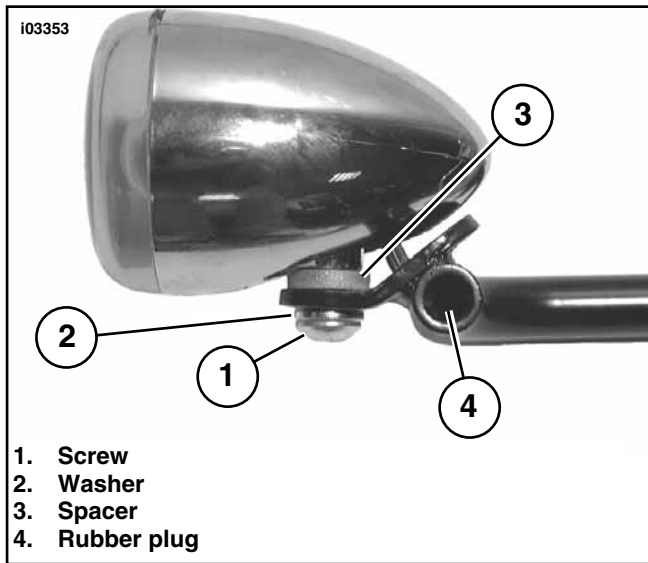

Figure 8. Installing 2-3/8 inch Signal Lamps (Deuce Style)
See Figure 8. Apply LOCTITE 243 (Blue) to screw (Part Number 4092). Using screw (1), lock washer (2) (Part Number 7042) and spacer (3) (Part Number 65849-01), attach lamp to signal relocation bar as shown. Spacer should be installed between signal and signal relocation bracket. Tighten securely. Repeat step 8 for the opposite side. Install rubber plug (4) over opening.